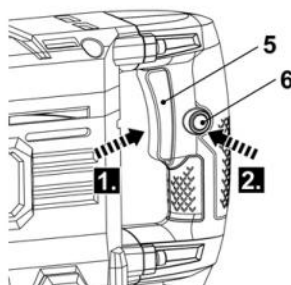

Fig. 4
- > Squeeze the on/off switch (5) to switch the product on (Fig. 4).
- > Release the on/off switch (5) to switch the product off.
- > Squeeze the on/off switch (5) to switch the product on and hold it in position.
- > Press the lock-on button (6) to lock the on/off switch (5) (Fig. 4). The on/off switch (5) is now locked-on for continuous use.
- > Depress and release the on/off switch (5) to switch the product off.